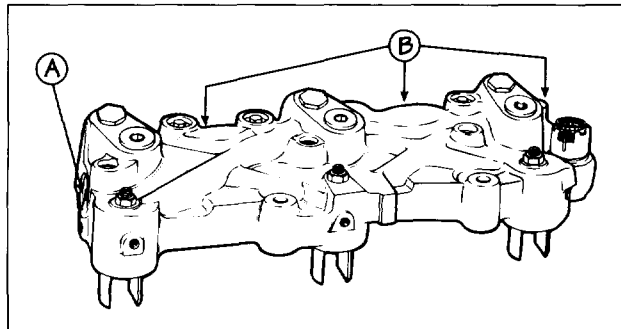

FIG. 1
DO NOT REMOVE THE PLENUM CHAMBER CAP (A) OR THE THREE 3/8" PIPE PLUGS (B) FROM THE SIDE AND REAR OF THE HOUSING WITHOUT FIRST REMOVING THE CHECK VALVE BODY. THESE SYSTEMS ARE UNDER EXTREMELY HIGH PRESSURE AND PERSONAL INJURY CAN RESULT IF PROPER PROCEDURES ARE NOT FOLLOWED (SEE FIG. 1).